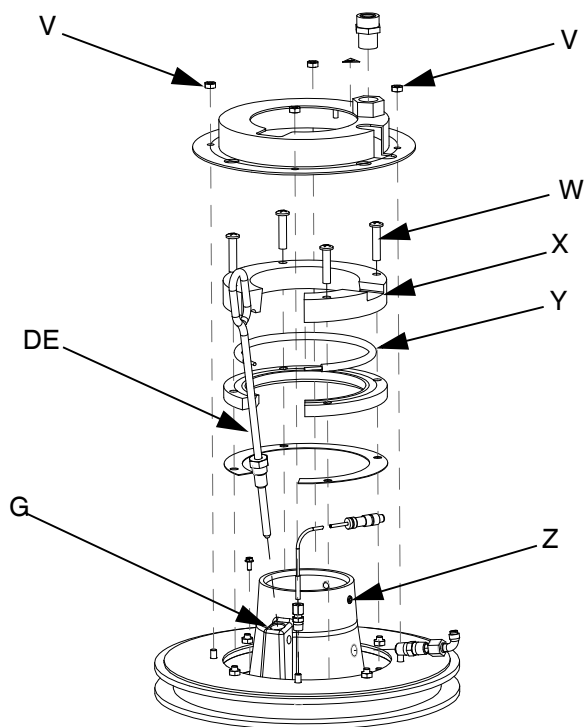

FIG. 23: Remove Platen Covers and Heaters
2. Turn the main power switch (MP) OFF.
5. Disassemble the blow off tube (H) from the blow off valve.
6. Loosen the set screw (Z), see FIG. 23.
7. Jog the director valve (BC) up to separate the platen from the pump.
9. Remove the bleed stick (DE) from the platen. Push the bleed stick through the bleed relieve port (G) to remove material residue. See FIG. 23.
10. Remove the platen covers. See FIG. 23.
- a. Remove the platen cover fasteners and nuts (V).
11. Disconnect the heater block (X) from the platen. Remove the screws (W) from the upper heater plate (X). Remove the upper heater plate.
12. Remove any excess fluid. Use a soft wire brush on the heater (Y). See FIG. 23.
13. Inspect the platen heater blocks (X) and heater (Y) for burn or melt spots. Replace the platen heater blocks or heater if necessary. See FIG. 23.